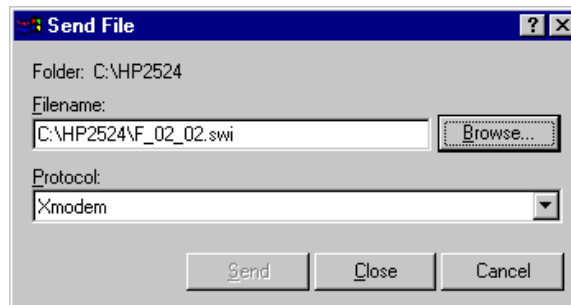

Figure 5-38 HyperTerminal Send Firmware dialog
Step 5. Press **Enter** and then press the Send icon  to open the dialog box. See Figure 5-38